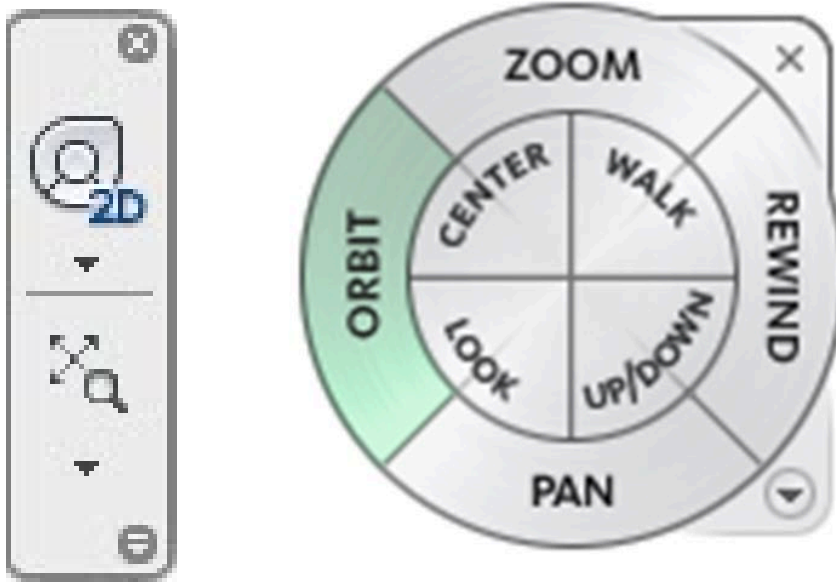

Figure 1.14 2D Wheel (left) and Full Navigation Wheel (right)
- Use the 2D wheel to zoom incrementally by options as shown in Figure 1.14